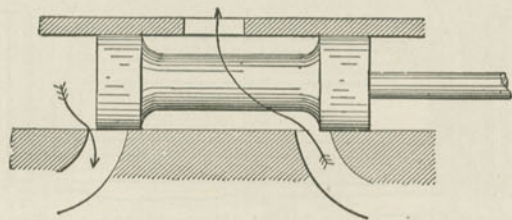

Fig. 159. Piston Valve.
*A. Yes; as shown in Fig. 159.*